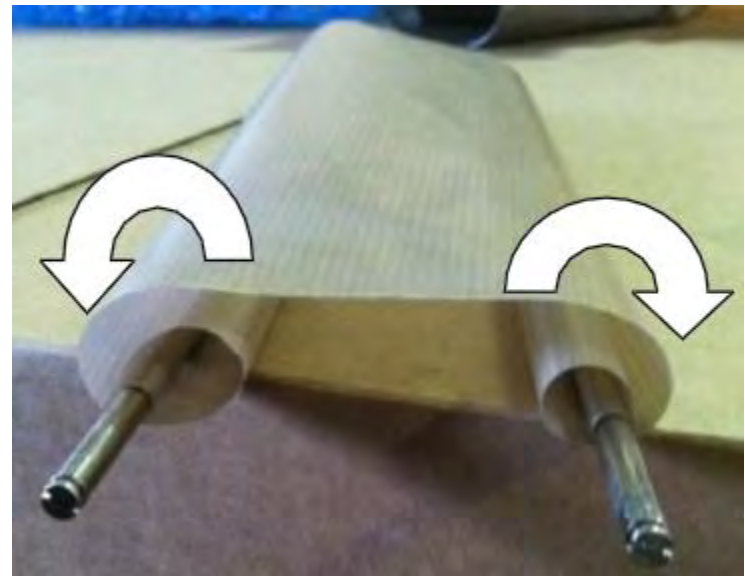

Figure 4-7
5. Repeat for the other end of the sheet. Be sure the sheet wraps around the outside of both ends, See Figure 4-7.